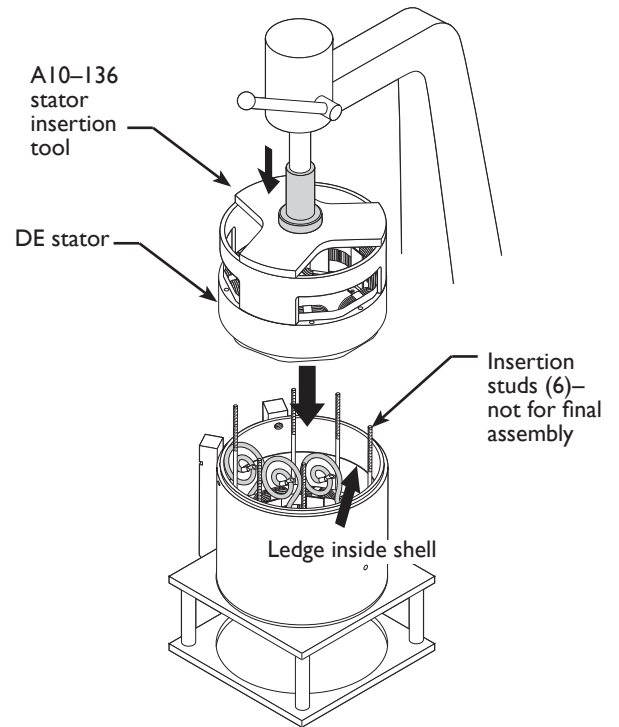

Figure F-1c DE Stator Assembly
- d. Turn shell so drive end is up. To properly position DE stator inside shell (see Figure F-1c):
- e. Press DE stator in place. Insertion studs should enter holes in DE stator. Make sure DE stator stops on ledge inside shell. See Figure F-1c. Remove 6 insertion studs.
- f. On DE stator, remove stator wedges from openings where ADE stator leads and field coil leads will pass between DE stator windings. See Figure F-1c for locations of DE stator phase leads and ADE stator phase leads as arranged in stator windings.